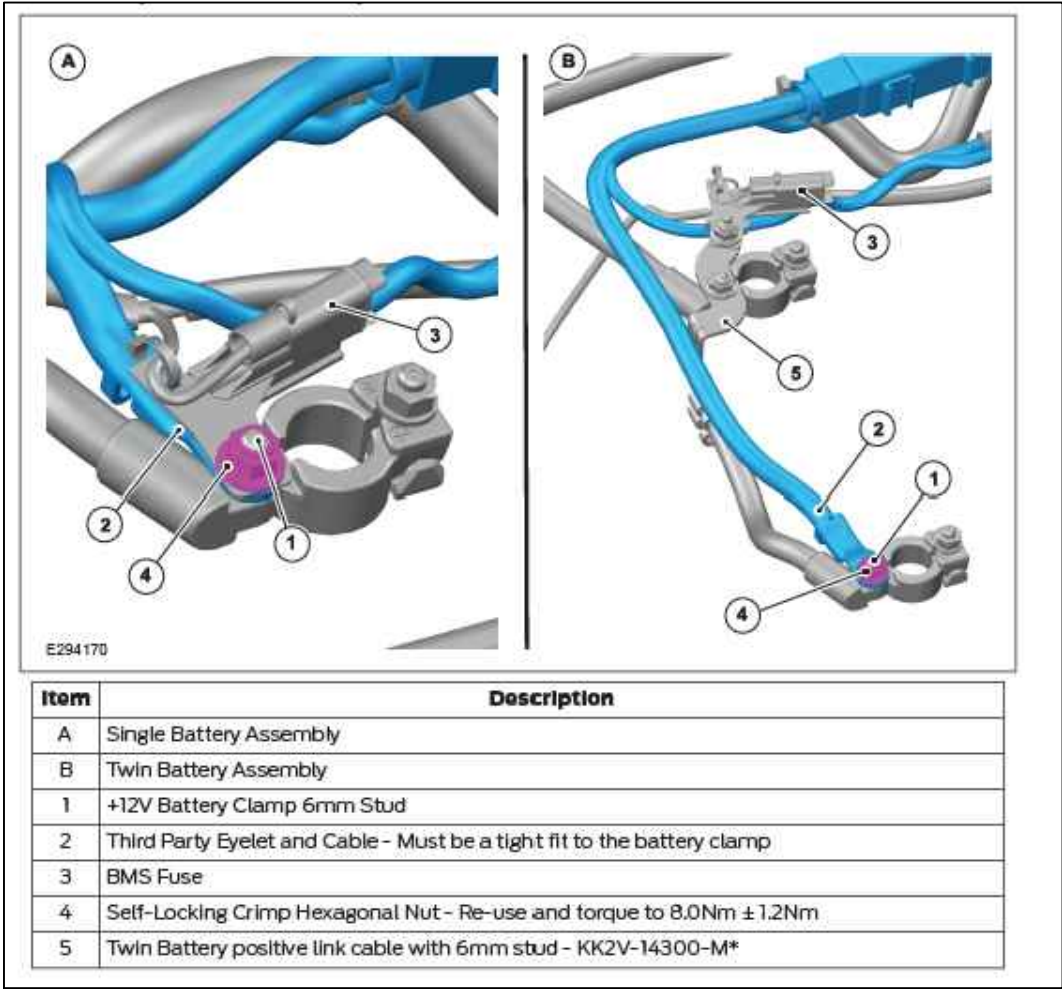

Figure 13: Battery diagram from 2020 Ford Transit Body and Equipment Mounting Manual (BEMM).
- 15. **Connect** the positive(+) lead to the M6 stud on the positive battery clamp. Reuse the M6 lock nut, when possible (Figure 13).